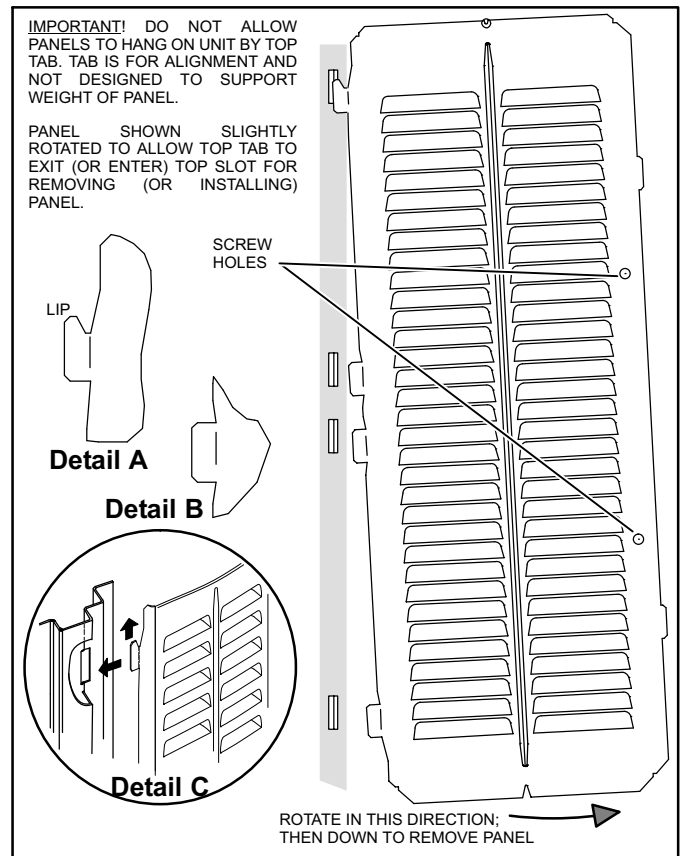

Figure 13. Removing/Installing Louvered Panels (Detail A, B and C)
2. **Hold the panel firmly throughout this procedure.** Rotate bottom corner of panel away from hinged corner post until lower three tabs clear the slots as illustrated in Figure 13, detail B.
3. Move panel down until lip of upper tab clears the top slot in corner post as illustrated in Figure 13, detail A.
- Slightly rotate and guide the lip of top tab inward as illustrated in Figure 13, details A and C; then upward into the top slot of the hinge corner post.